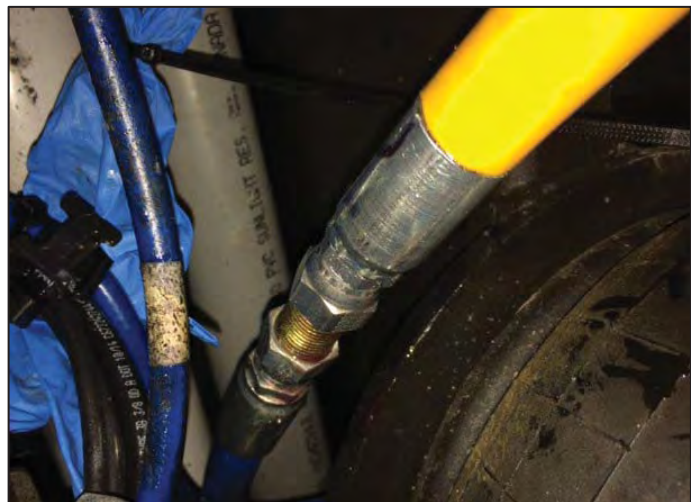

Figure 2
3. Join the old and new hose #161335P together with a #8 brass union fitting. (Fig. 2)